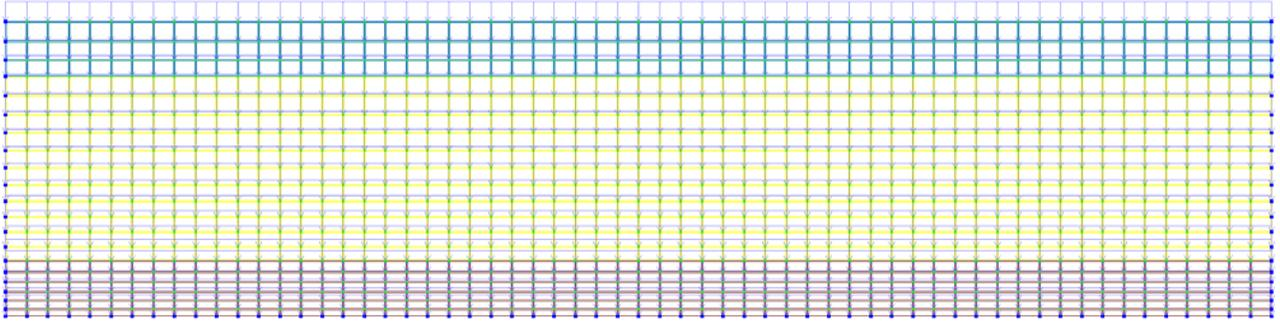

Figure 10.24 Design model with account of nodal displacements
- ⇒ In the mode of analysis results visualization, by default design model is presented with account of nodal displacements (see Fig.10.24). To display the model without nodal displacements, on the **Results** ribbon tab, on the **Deformations** panel, click **Initial model** button .